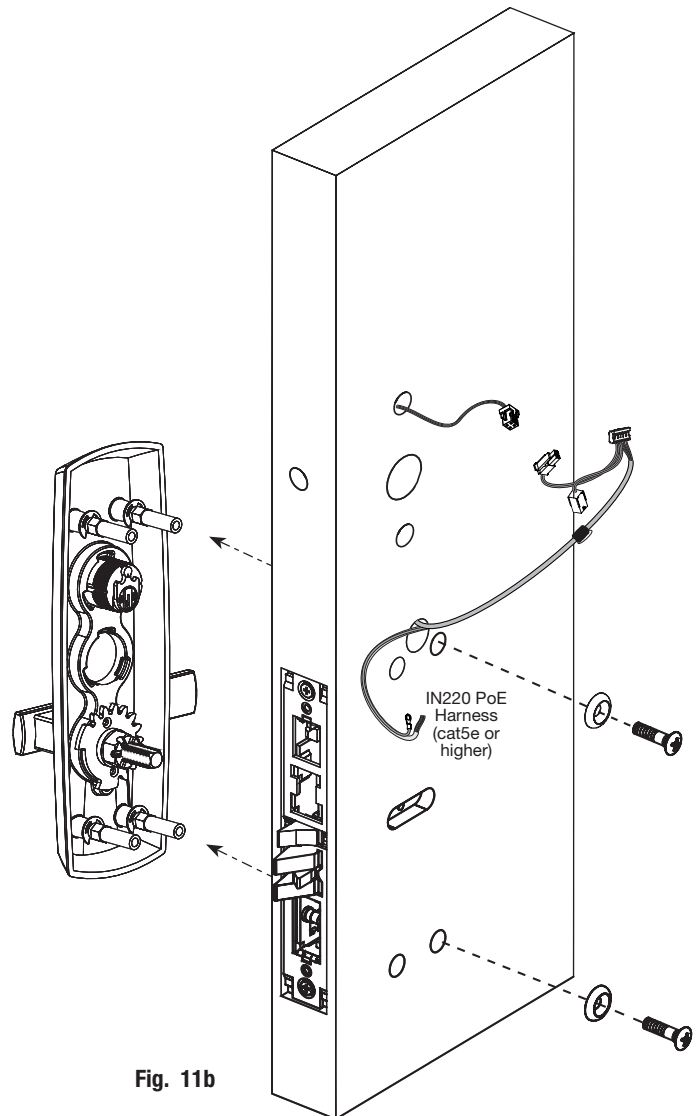

Fig. 11b
- Fasten trim assembly to door using (2) 1/4-20 oval head screws and (2) finish washers (Fig. 11b).